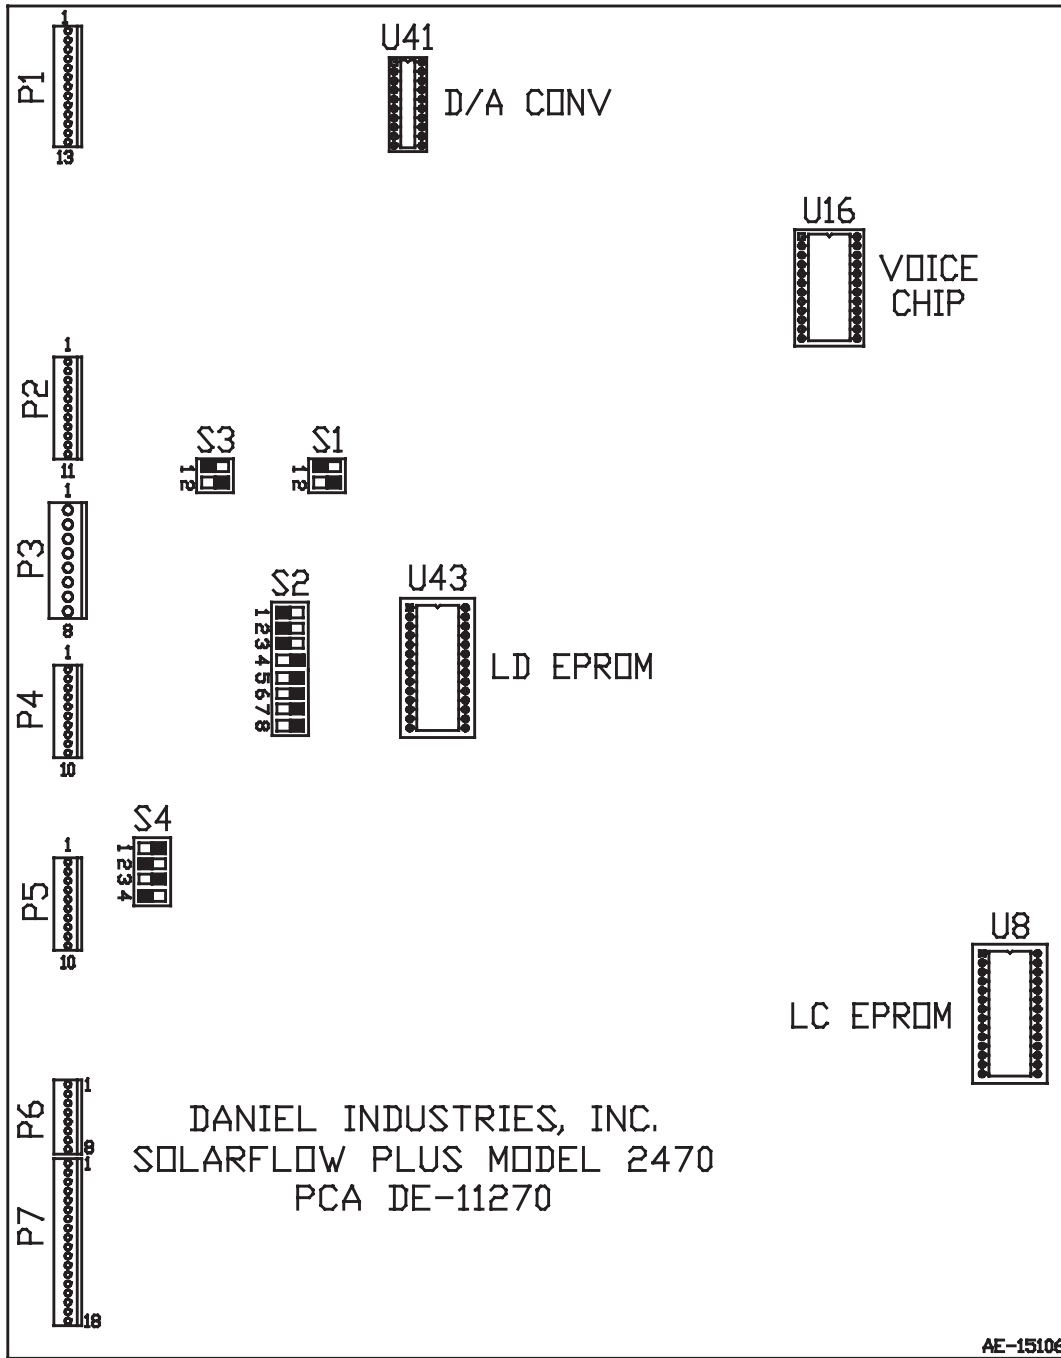
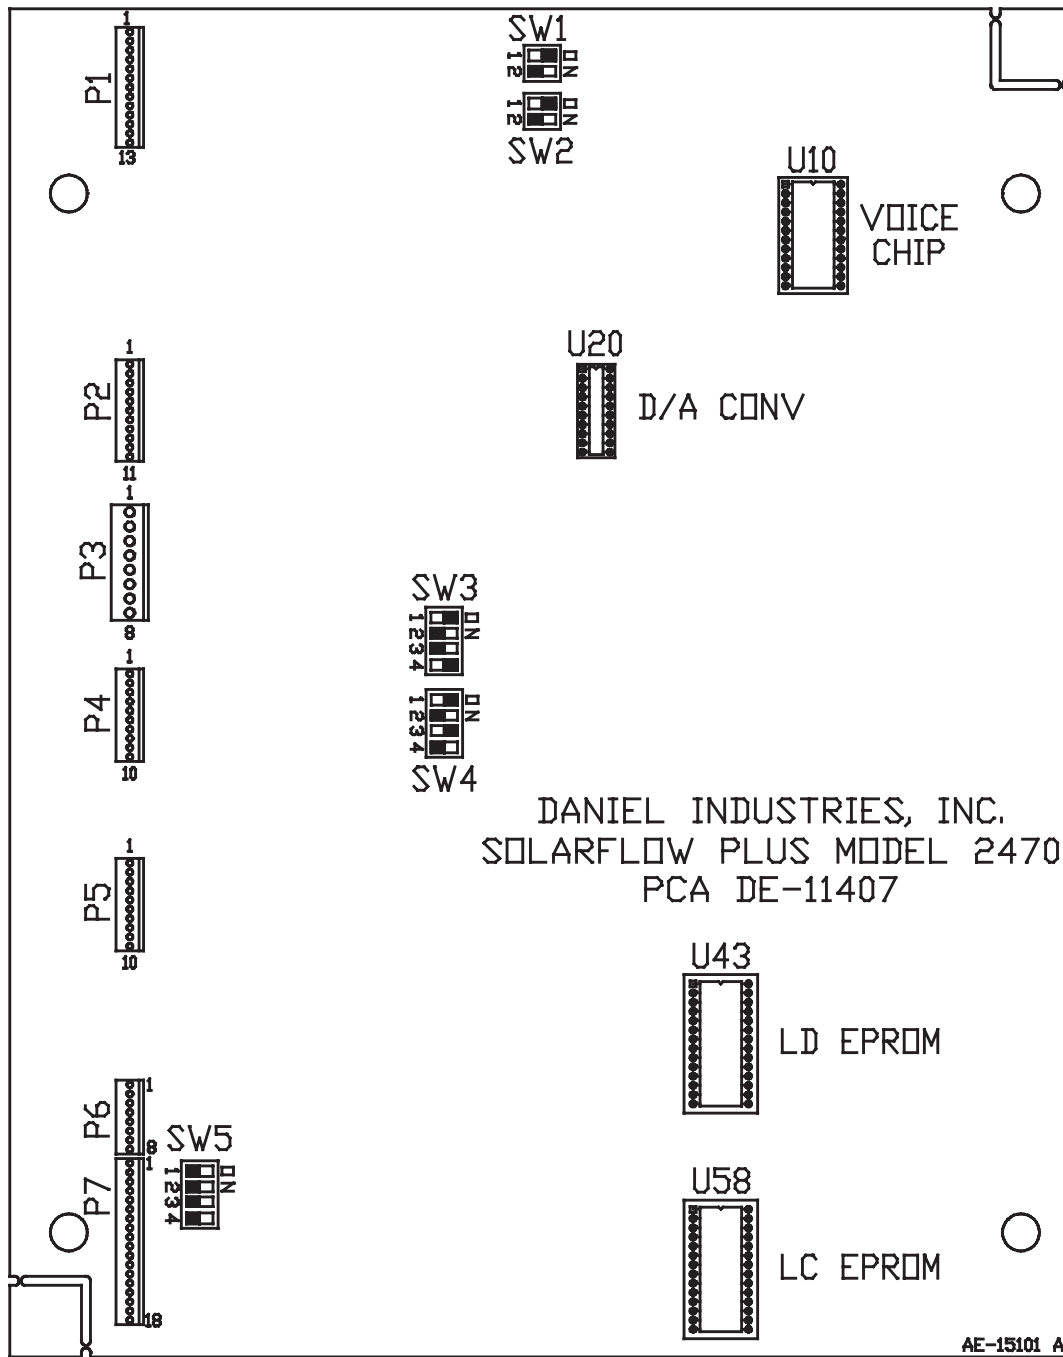

Figure 1. Model 2470 Slide Switch Locations
Figure 2. Model 2470 Slide Switch Locations
The main printed circuit (PC) Board of a SolarFlow Plus unit has several sets of slide switches that are factory set for the application installed in the unit. Figure 1 illustrates the locations *only* of the slide switches on the older PC board. This Application Manual shows the slide switch settings for this application. Figure 2 illustrates the locations *only* of the slide switch settings of the newer PC board. The PCA number on the illustration specifies the assembly of this particular board. ***If you have a newer PC board (3-2470-008), the switch reference designators are different, see paragraph 1.9.1.*** Note that the slide switches use SW- reference designators on the newer PCB. For a full discussion of the slide switch settings or if the application is changed, refer to the System Reference Manual. Check your installation switch settings with the following tables.
(Refer to Figure 1.)
These slide switch settings are for newer PC Board 3-2470-008. These settings will be set at the factory when the application is known. Figure 2 illustrates the locations *only* of the slide switch settings of the newer PC board. Note that the slide switches use SW- reference designators on this newer PCB. For a full discussion of the slide switch settings or if the application is changed, refer to the System Reference Manual. Check your installation switch settings with the following tables.
(Refer to Figure 2.)